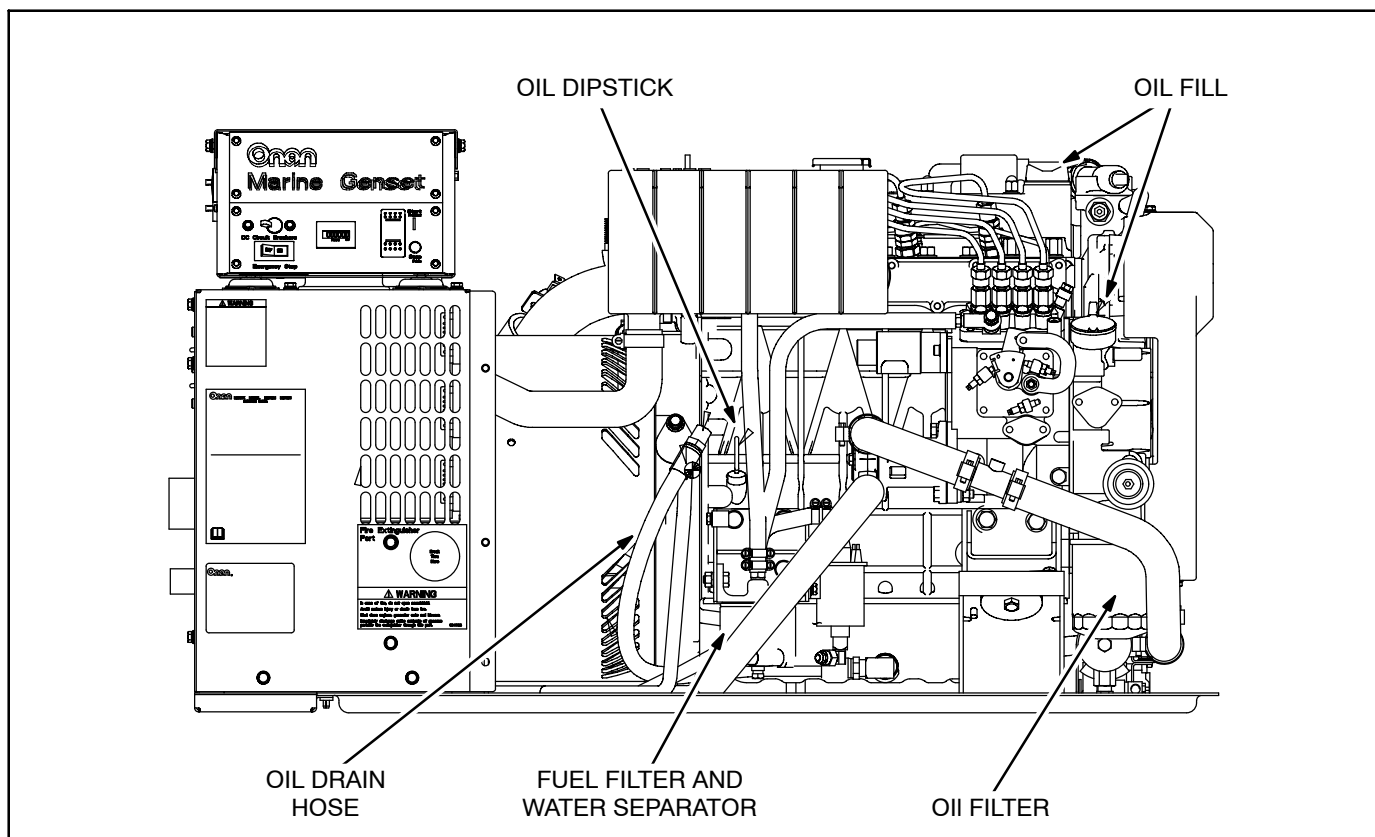

FIGURE 4-1. OIL AND FUEL SERVICE POINTS—MDKKBK, MDKBL, MDKBM, MDKBN
Shut off the genset and check the oil level with the dip stick (Figure 4-1, 4-2 or 4-3). Add or drain oil as necessary. Add 1 quart (0.9 liters) when the level falls to the ADD mark. Drain oil if the level is above the full mark.
2. Be ready to drain the oil into a suitable container and then open the drain valve or unscrew the plug on the end of the drain hose (Figure 4-1, 4-2 or 4-3) and drain the oil into a suitable container. (Two wrenches are necessary to keep from twisting the hose when loosening and tightening the plug.) If an oil pump-out system is installed, follow the instructions provided.
Draining Water and Sediment: The genset may have a water-separator type of fuel filter (Figure 4-1, 4-2). Also check for up-stream water-separator type fuel filters. Drain water and sediment more often than scheduled (Table 4-1) if fuel quality is poor or condensation cannot be avoided. Dispose of the water, sediment and fuel drained off in accordance with local environmental regulations.
Replacing Fuel Filters: See Table 4-1 for scheduled fuel filter replacement. Replace fuel filters (Figure 4-1, 4-2 or 4-3) if the engine lacks power.